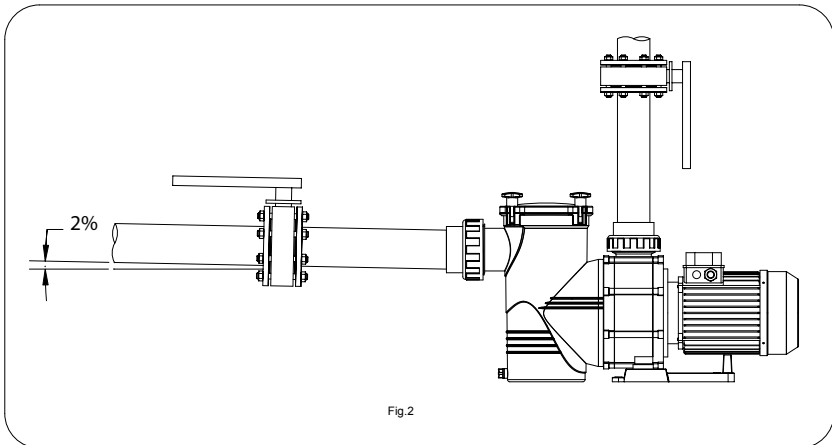

Fig.2
- The tubing connection must be screwed to the pump nozzles (Fig.2).
- Impulsion tube installation is done totally perpendicularly and is well centred with respect to the nozzle to be connected so as to avoid external pressure being exerted on the pump and the tube. Apart from making assembly more difficult, this pressure could even break them (Fig.2).
- Suction tube installation is done at a slight angle of 2% towards the pump, thus avoided siphon formation (Fig.2).